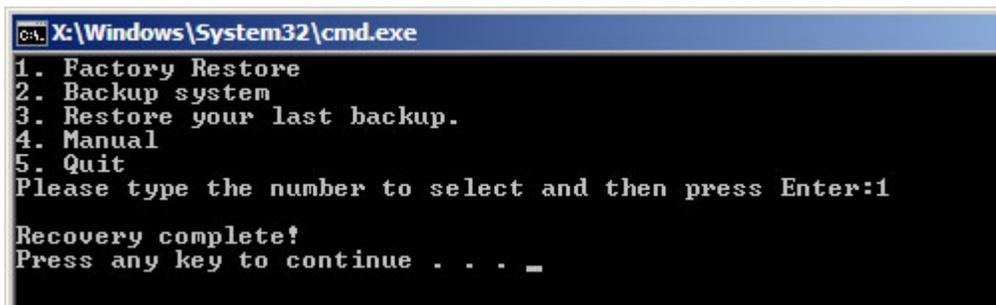

Figure D-37: Recovery Complete Window
Step 3: The screen shown in **Figure D-37** appears when completed. Press any key to reboot the system.